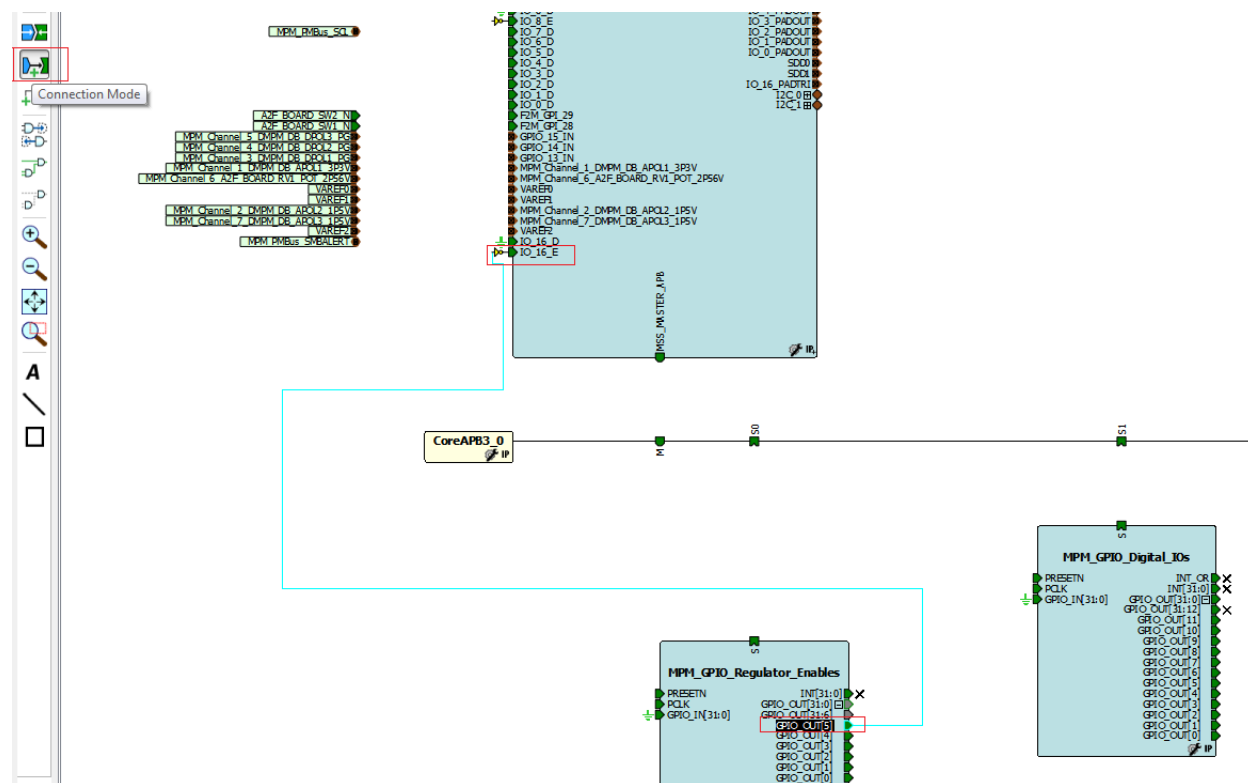

Figure 32 • Connecting GPIO_OUT[5] and IO_16_E
13. Connect GPIO_OUT[5] port of MPM_GPIO_Regulator_Enables to IO_16_E port of SF_MPM_RefDesign_MSS by using Connection Mode button as shown in Figure 32.